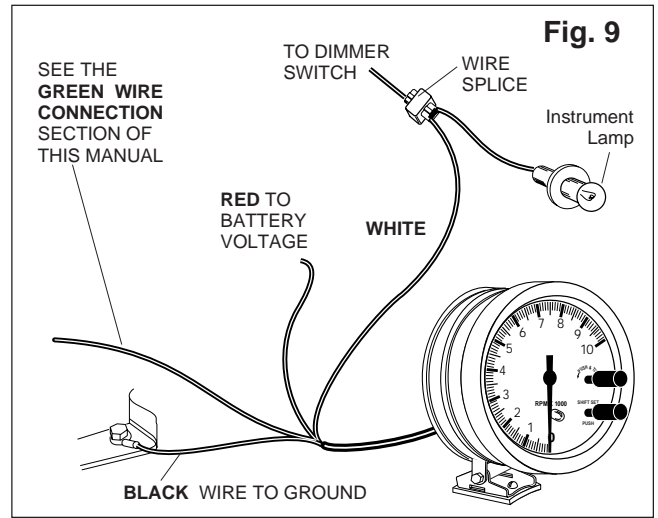

Fig. 9
1. Connect the **BLACK** wire to the negative (-) battery terminal, or a clean unpainted chassis ground using a ring terminal or other suitable means. (See Figure 9.)
2. Connect the **RED** wire to any vehicle harness wire which is energized with battery voltage, **ONLY** when the ignition key is in the ON (RUN) position, **NOT OFF OR ACCESSORIES**. (See Figure 9.)
3. Connect the **WHITE** wire to the instrument panel lighting circuit or any lead that is controlled by the instrument panel dimmer control. (See Figure 9.)